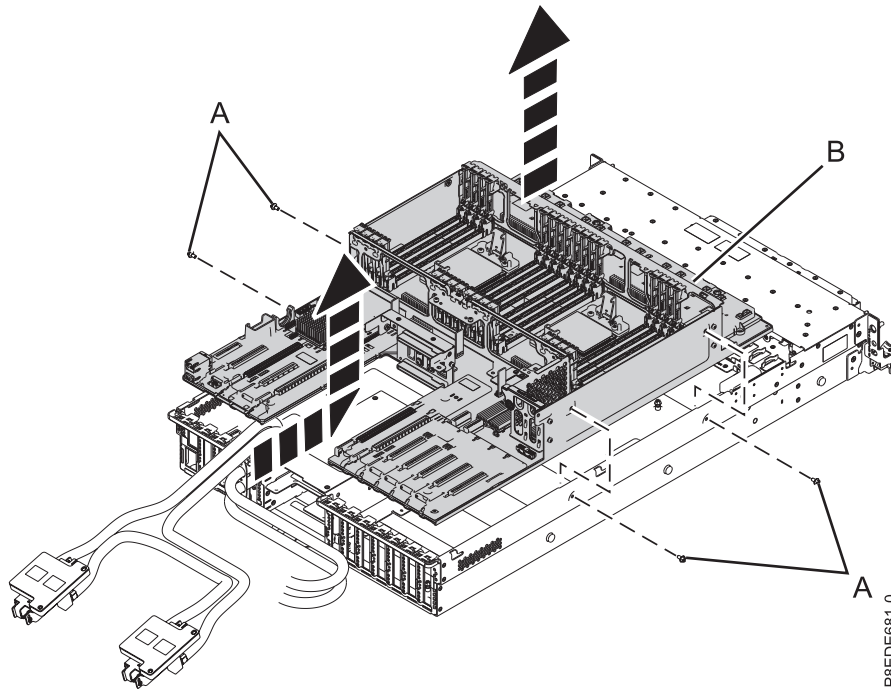

Figure 65. Removing the system backplane
- b. Using a Phillips screwdriver, unscrew and remove four screws (A) from the sides of the system chassis as shown in Figure 65 on page 69.
- d. Grasp the system backplane by the top guide rail (B). Slide it forward in the direction that is shown, then lift it up to remove it from the chassis. See Figure 65 on page 69.